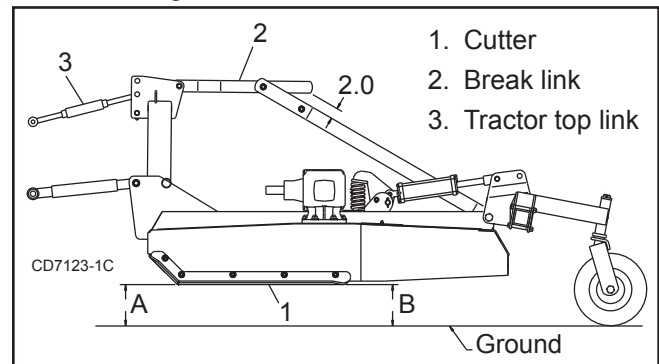

Figure 8. Cutting Height Adjustment
Loosen the jam nut on the attitude rod that runs from the tongue to the tailwheel. Adjust rod in or out until position B is approximately 1/2 inch more than position A. Refer to Figure 8.
Adjust the tractor 3-point hitch to a distance of 2-1/4" at position A to obtain a 4" cutting height. See Figure 8.
Adjust top link to provide 2 inches of clearance between the break link (2) and the rear of the lift links. See Figure 8. This clearance will allow the cutter to float over uneven terrain.